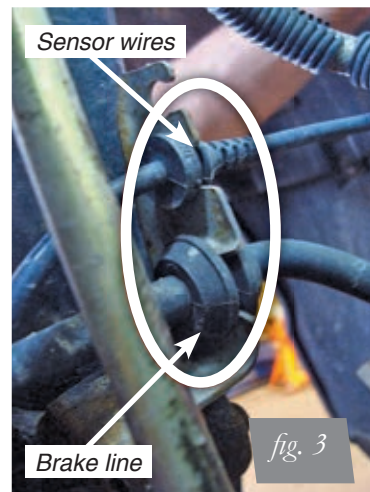

*fig. 2*
2. Remove the front wheels (fig. 2). Support the hub assembly before beginning work.